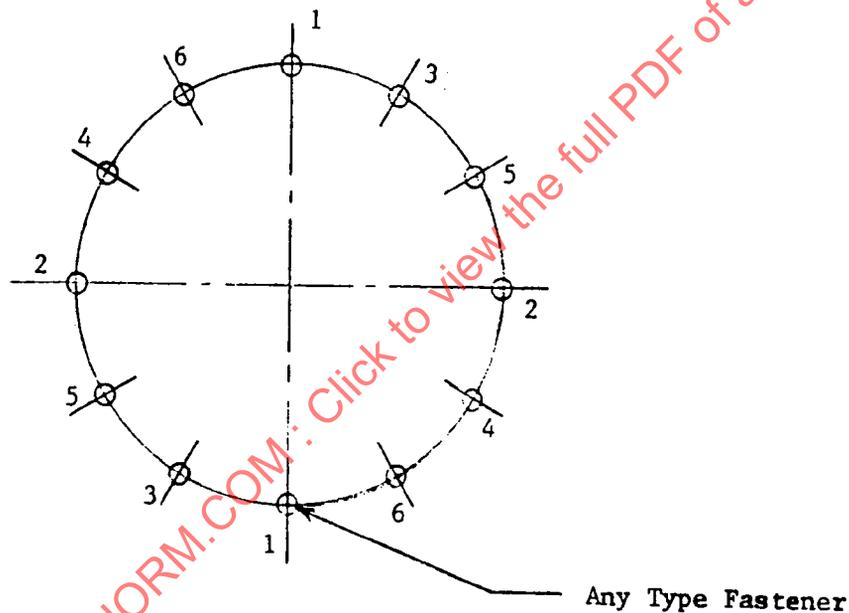

FIGURE 1 Typical Diagram Indicating Sequence of Assembling Fasteners
- 4.2 [ASSEMBLY SEQUENCE]: A method (see Figure 1) indicating sequence of assembling fasteners in a prescribed pattern. Also: Installation Sequence, Tightening Sequence, Torquing Sequence.